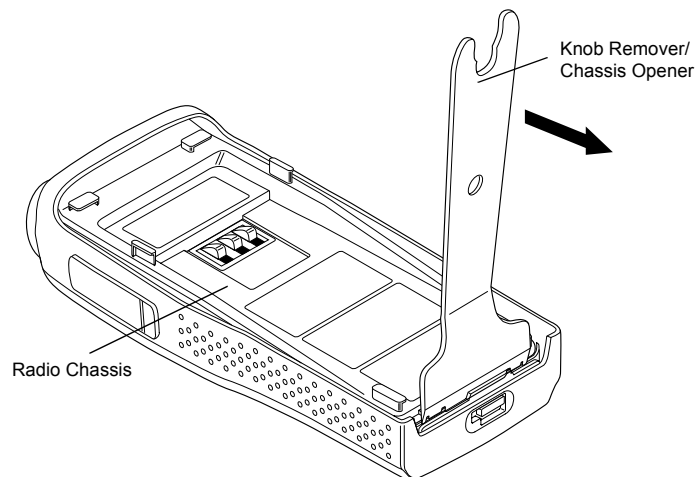

Figure 6-3. Chassis Removal
5. Separate the chassis from the front housing assembly by using the knob remover/chassis opener tool. Place the broad side of the opener into the slots located at the base of the radio (Figure 6-3). Press the handle on the opener downwards. This pressing action forces the thin inner plastic wall toward the base of the radio, releasing the two chassis base tabs.